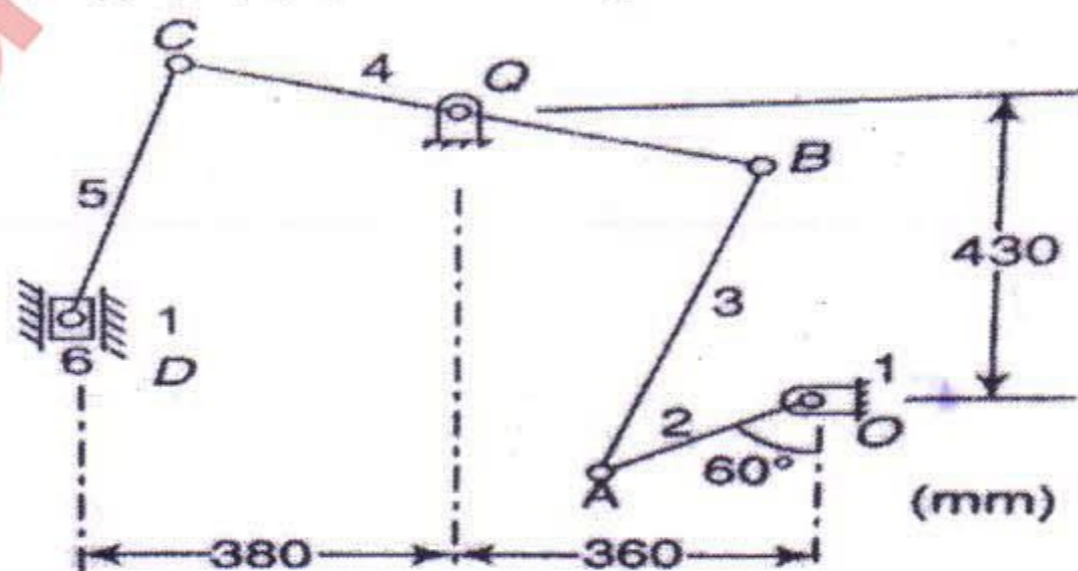

Figure. 2
3. (a) Fig. 2 shows a six-link mechanism. The dimensions of the links are $OA = 220$ mm, $AB = 485$ mm, $BQ = 310$ mm, $BC = 590$ mm and $CD = 400$ mm. for the position when the crank OA makes an angle of 60° with the vertical, find the the velocity of the slider D by ICR method. the crank OA rotates clockwise at 150 rpm.